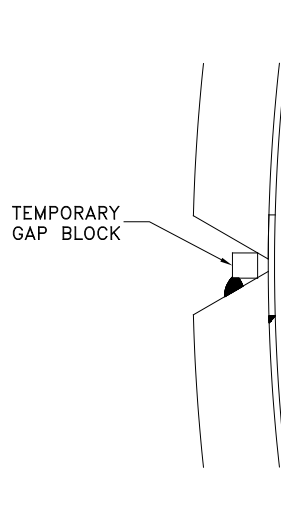

Figure 2
7. The temporary use of gap blocks, as shown in Figure 2, may be helpful in maintaining an equal gap on both sides of the Tap+Enclosure while the sleeve halves are drawn together. The gap blocks may be tack welded in place, but must be removed before the sleeve halves are welded. Due to the diameter tolerance of the pipe, the exact size of the gap block is difficult to predict. A 0.25 inch (6 mm) block is a reasonable starting size.